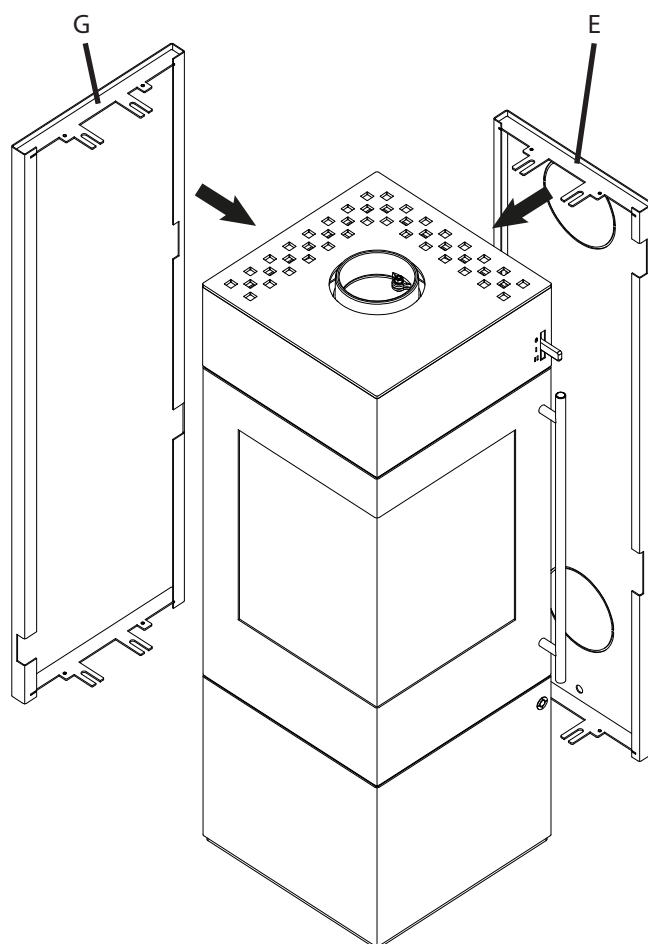

Fig.4
- Knock the cover for the stove pipe connection and the cover for the combustion air line connection out of the back panel (E) (see Fig.4).